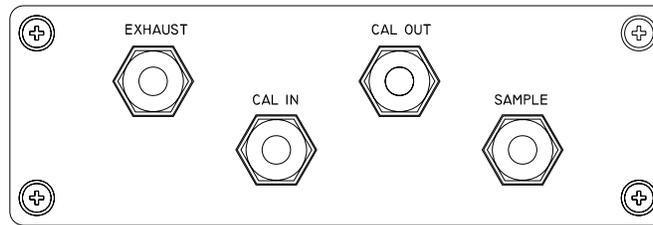

Figure 5–2. Rear Panel Plumbing Fittings
4. Disconnect the sample input line from the rear panel, plug the SAMPLE fitting, the CAL IN fitting, and the CAL OUT fitting (Figure 5–2).
Use the following procedure to change the pump diaphragm, valve plates, and seal rings (Figure 5–3). To replace the DC pump, see the “DC Pump Replacement” procedure in the “Servicing” chapter.